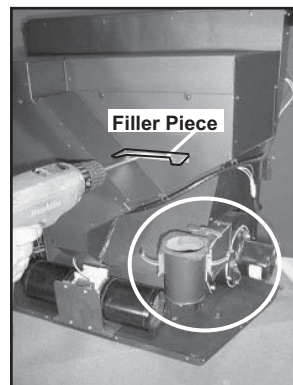

Figure 20.2
1. Remove the top vent adapter from the vertical exhaust transition pipe. **Figures 20.2 and 20.5.**